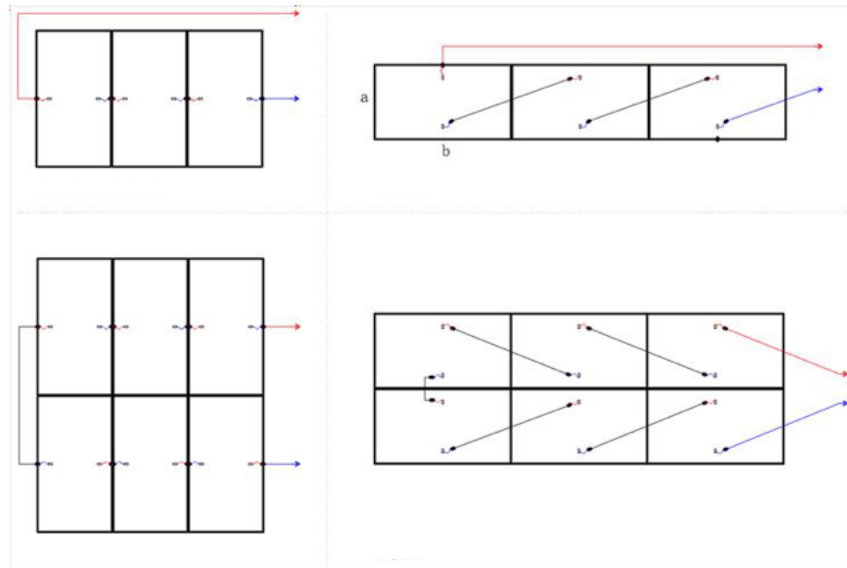

Figure.7 Common arrangement of modules
- At present, the PV module arrangement is more common in single vertical row, double vertical row, single horizontal row or double horizontal row, as shown in Figure 7: